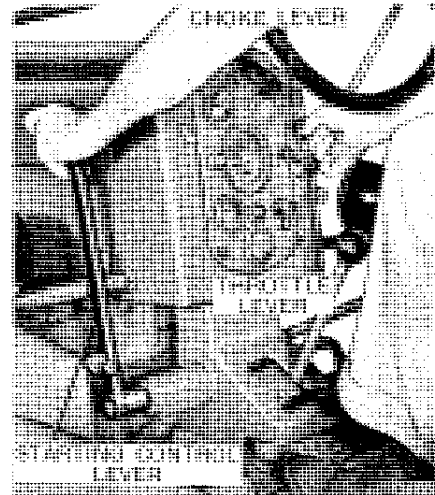

Figure 10-10-2—Starting the Cranking Engine
- (4) Hold choke lever to the left. The cranking engine will not continue to run with the choke in this position; therefore, when engine starts, release the choke lever. It is not always necessary to choke the engine.
- (5) Push starting control lever forward to operate the cranking motor. Release lever when engine begins to run (Figure 10-10-2).